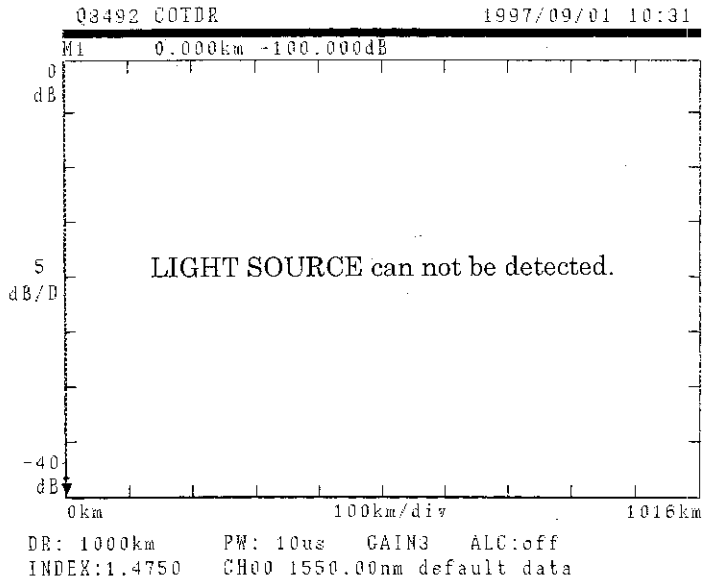

Figure 3-3 Screen When Initial Operation Check is Omitted
**Note:** Turn the Light Source unit power ON within three seconds after turning the OTDR unit power ON (steps ③ and ④). Otherwise, the LIGHT SOURCE unit cannot be controlled (see Figure 3-3).